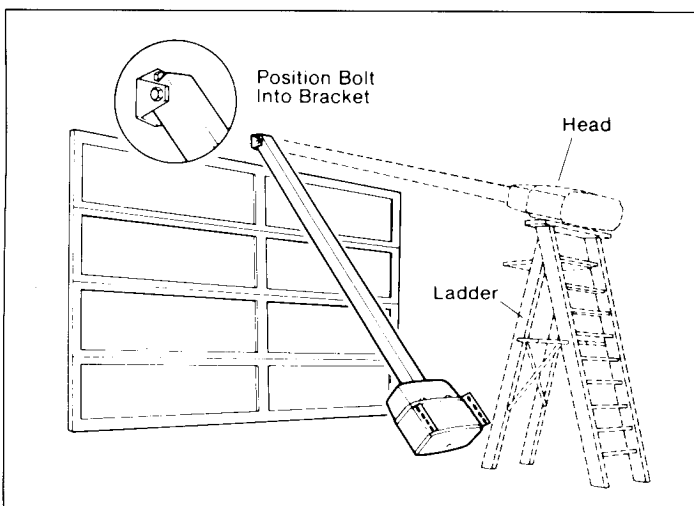
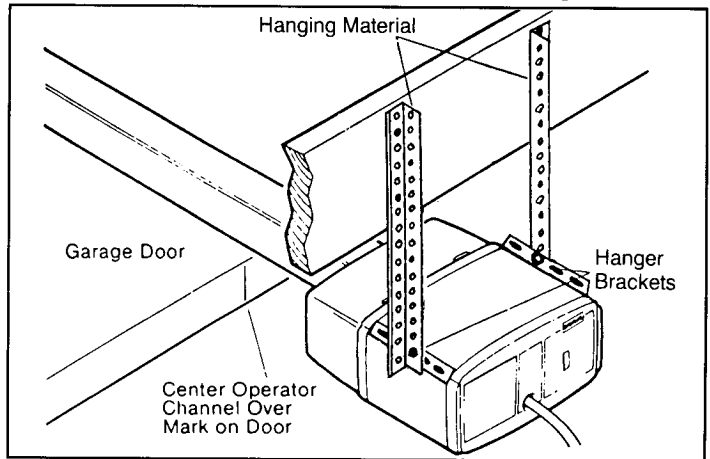

Figure 14
Figure 15
Step 23: Place the assembled operator on the floor with the exposed end of channel facing the door. Next, raise the end of the channel and insert it in the header bracket (see Figure 14). Secure the channel in the bracket using the bolt and keps nut supplied. Note: Do not tighten the keps nut on bolt until the power head has been mounted.
When the door is equipped with a torsion spring, the spring extends inward above the door to a distance which creates an angle that makes it impossible to rest the operator head on the floor as shown in Figure 14. For such installation, place the power head on a ladder so that the channel will clear the torsion spring and reach the header bracket.
Step 24: Raise the head end of the operator and rest it on a ladder about 8' above the floor so that the operator will not obstruct the door when it is opened (see Figure 14). Next, raise garage door to the fully open position (see Figure 15).
Step 26: Center the power head and channel in line with the header bracket. To accomplish this, align channel with pencil mark at the top center of the door as shown in Figure 15.
Step 27: Raise channel two inches above top edge of door. Place a 2 x 4 on door and rest operator on it. Use the 2" lag bolts provided to attach the hanging material to ceiling joist or header (see Figure 15). Note that the channel and trolley bottom must clear door by at least two inches.
Installation requirements may vary with garage construction. Additional material may be required for finished ceiling (dry wall or plaster). In such cases, be sure that the hanger straps are secured to ceiling joists, or to a header-plate (see Figure 15) which, in turn, must be attached through the finished ceiling to the supporting joists.